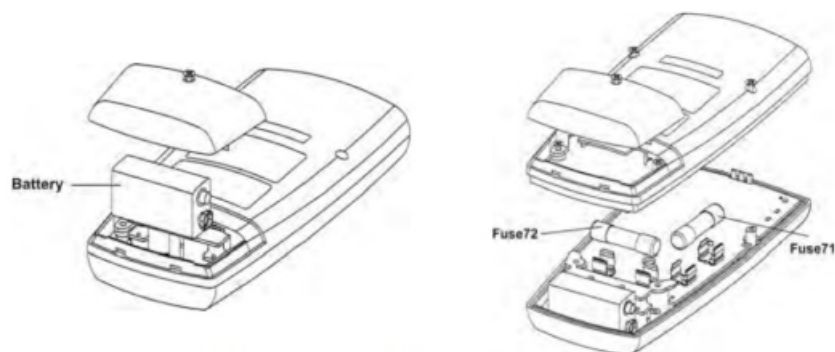

Fig. 11: Replacement of the battery and internal fuses
3. Loosen the screw of the rear battery compartment cover, remove the cover, and extract the battery (see Fig. 11)